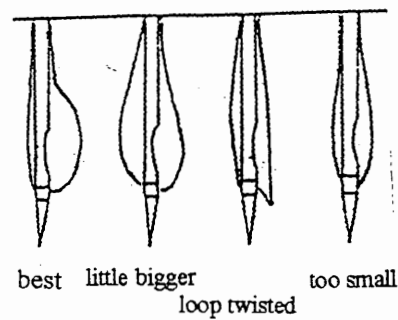

图 14 Fig. 14
To adjust the height of upper thread (5): When the needle bar is at its lowest position, the thread should be straight, but not too tight. The loop should be stable and prevent stitch skipping from being twisted when the needle bar moves upward. If thread twist is so strong that the loop runs away frequently. Adjust carefully to reach the above requirement, as shown in Fig. 14.
面板穿线(5)的高度调节: 要求针杆到最低点时, 缝线全部拉直, 但又不很紧, 使针杆回升时线环稳定, 防止扭曲而引起跳针。如发现线的捻度大, 线环经常逃跑, 则必须细心调到上述要求, 形成最佳线环, 如图 14 所示。